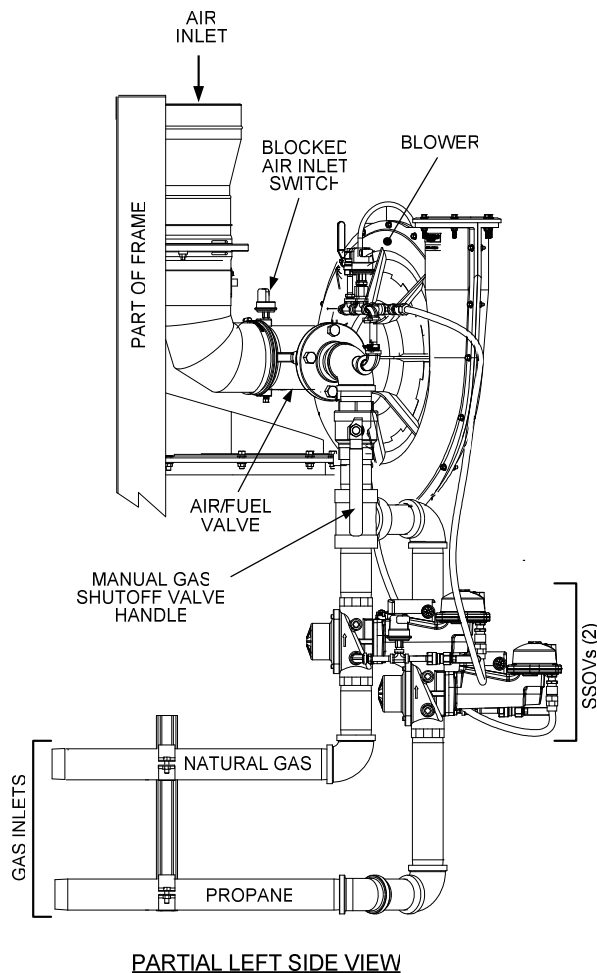

Figure 6-3
3. Close the manual gas shutoff valve located between the Safety Shut-Off Valve (SSOV) and the Air/Fuel Valve (see Figure 6-3).
These tests check the operation of the Blower Proof Switch and Blocked Inlet Switch shown in Figure 6-3.